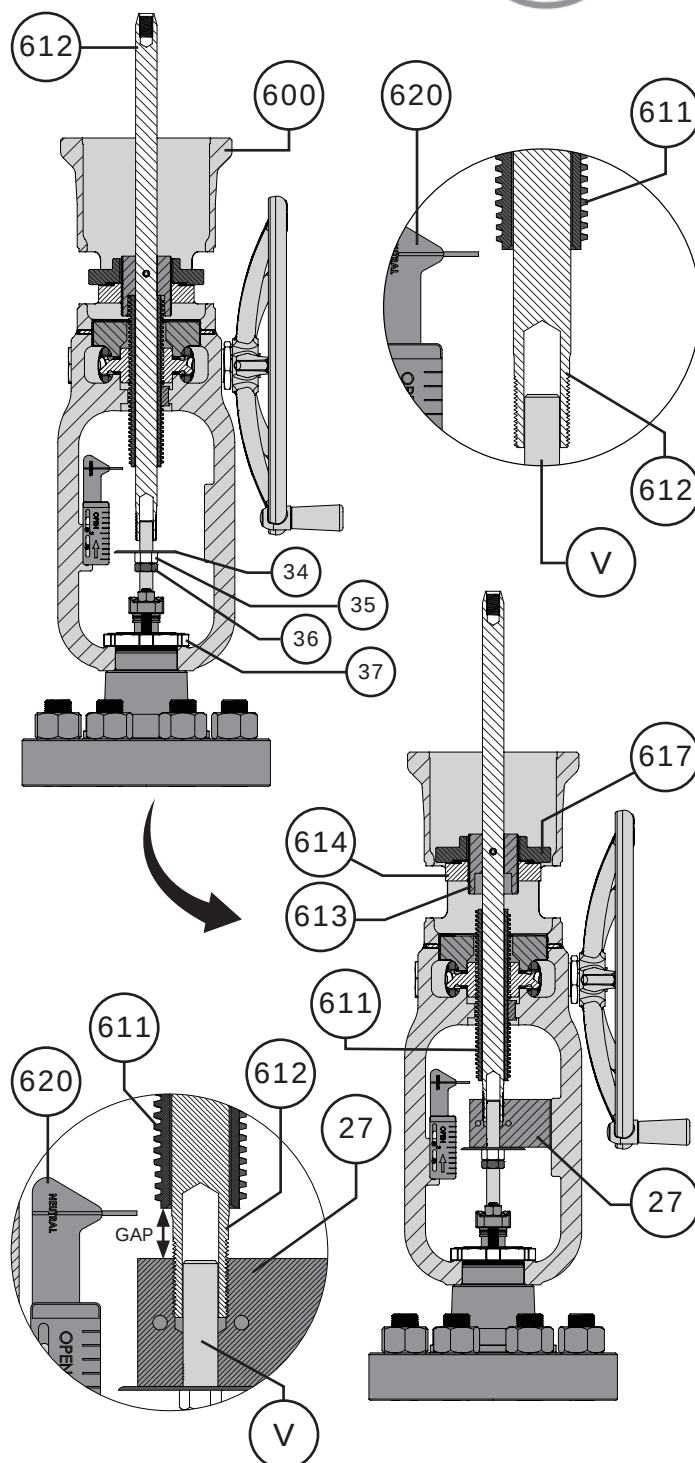

Figure 96 Valve and Actuator Stem Connection
- 13 Insert the actuator sub-assembly (Keys 612, 613, 614, 615, 616, 617, 618) into the yoke (Key 600) so that the actuator stem (Key 612) slides through the lower sleeve (Key 611) until the lower sleeve slides into the adjusting screw (Key 613). If possible during installation, try to position the actuator stem over the valve stem if the actuator was left mounted to the valve. Refer to Figure 96.
- 14 If the actuator is still mounted to the valve and the required amount of stem engagement has been met, clamp both stems between the connecting block (Key 27) and secure it in place with the stem connector cap screws (Key 28). **NOTE:** The top of the stem connector should not be closer than 1/8" (3.2 mm) to the bottom of the lower sleeve (Key 611) when the actuator stem is in the retracted position. Positioning the stem connector as mentioned will provide 1/8" (3.2 mm) of free travel for the lower sleeve in either direction during manual operation. Refer to Figure 96, GAP.